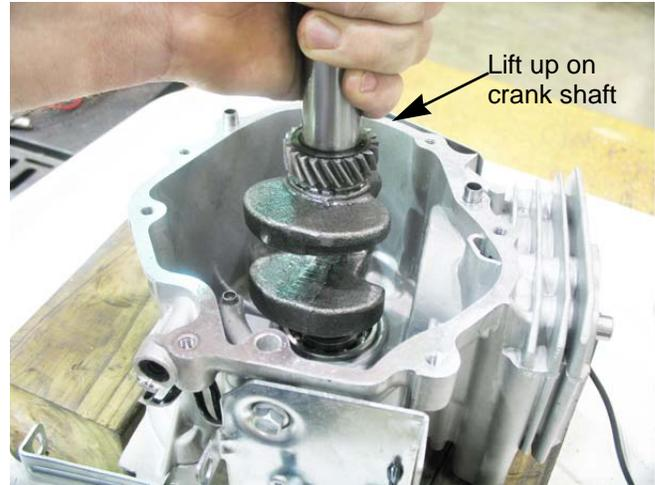

Figure 10.8
16. Remove the crank shaft. See Figure 10.8.